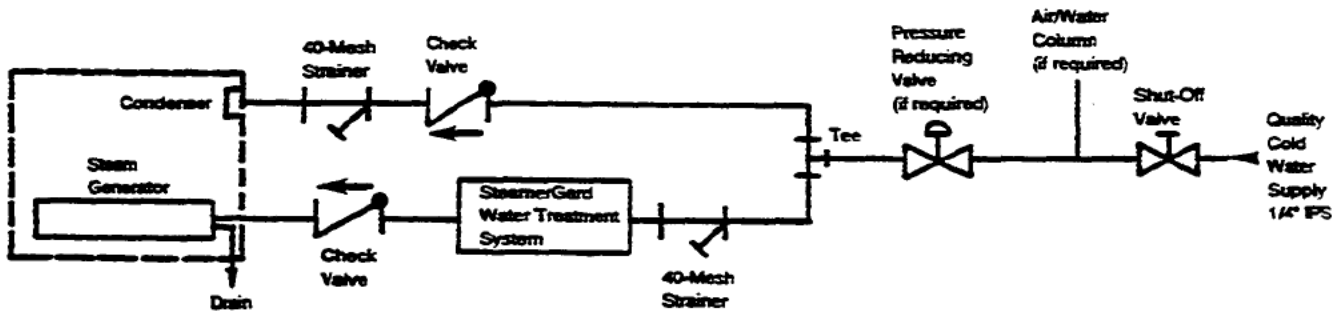

Figure 2-3. Double Water Connection
- If analysis shows that the supply water is NOT within the required limits, a SteamerGard water treatment system and two water supply lines must be installed as illustrated in figure 2-3.
6. When a water treatment system is installed, Cleveland Range recommends the plumbing layout illustrated in figure 2-3.